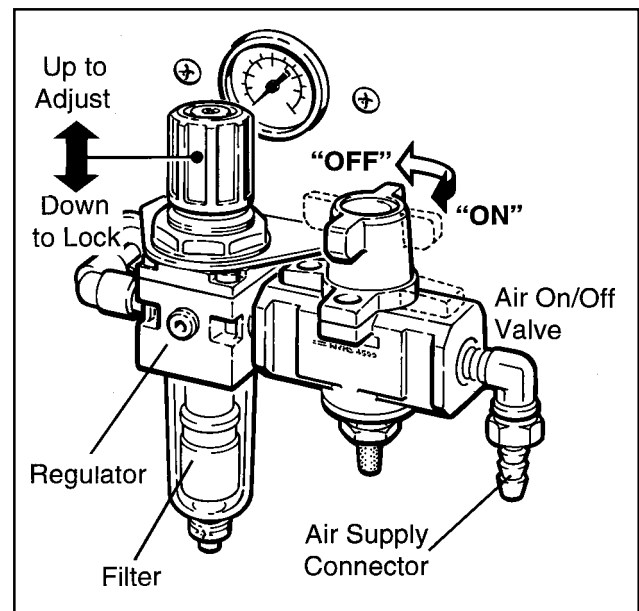

Figure 3-3 – "On/Off" Valve/Regulator/Filter
- 2 Main Air "On/Off" Valve/Pressure Regulator/Filter** – Figure 3-3